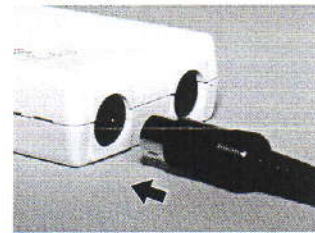

Fig.1
- (1) Charging (1 hour to full charge)
- ① Connect the battery charger plug into the jack marked as CHARGER on the rear of the control unit. See Fig. 1.
- ② Connect the battery charger to a power source.
- ③ Set the motor on-off switch at OFF to start charge.